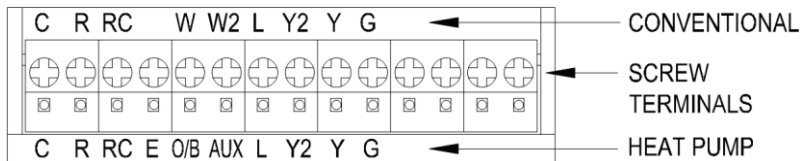

Fig.6.Terminal identifications for system.
1. See **Table 1** and **Fig.6** for terminal designation descriptions. Insert wires in the terminal block under the loosened screw. **See Fig.7.**